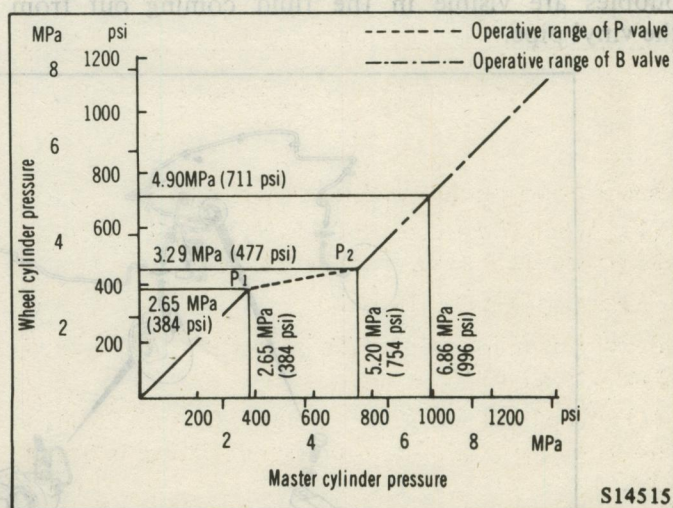

Fig. 14 Pressure Control of Rear Wheel Cylinder
This is to say that P valve (6) operates between the split points P_1 and P_2 shown in Fig. 14 and B piston (3) only operates within the section above the point.